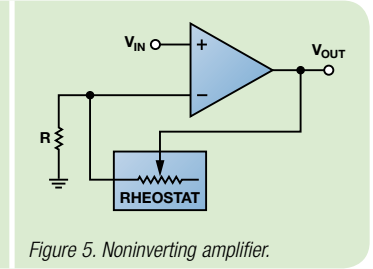

Figure 5. Noninverting amplifier.
- Op amp gain control (see Figure 5)